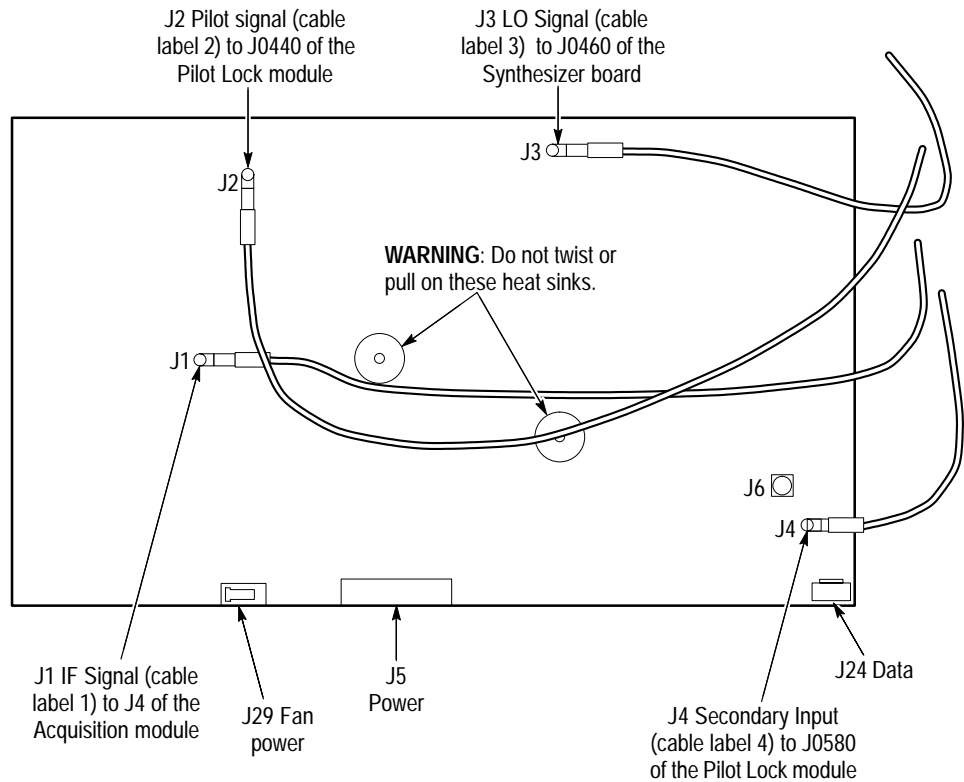

Figure 6-8: Connector locations on the down converter module
3. Disconnect the interconnection coaxial cables from the down converter module (see Figure 6-8 for the connector locations).